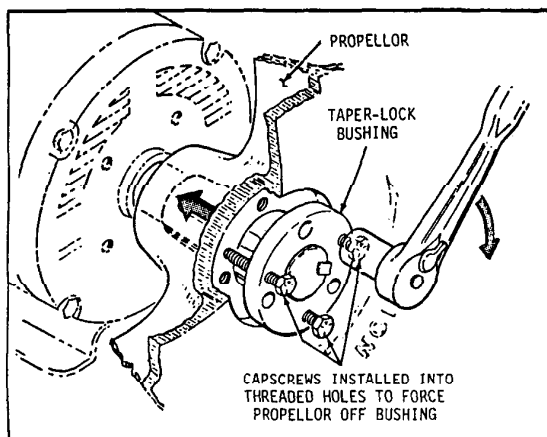

FIG. 2 - CAPSCREW ARRANGEMENT FOR DISASSEMBLY
THREADED BUSHING HOLES - THE THREADED HOLES WITHIN THE BUSHING ARE PROVIDED FOR DISASSEMBLY PURPOSES ONLY. See Figure 2. DO NOT ATTEMPT TO USE THESE HOLES FOR REASSEMBLY, AS THEY WILL NOT ALLOW THE PARTS TO BECOME LOCKED ONTO THE SHAFT, THEREBY CAUSING A HAZARDOUS OPERATING CONDITION.
- Block propellor to prevent it from turning, and GRADUALLY TURN IN THE CAPSCREWS (up to 1/4 turn at a time), as shown in Figure 2, until the propellor breaks loose from the bushing and motor shaft. Carefully remove bushing and propellor. With the propellor free from the bushing, a wheel puller can be used to pull the bushing off of motor shaft, if required. Reattach bushing onto propellor to prevent the loss of parts.